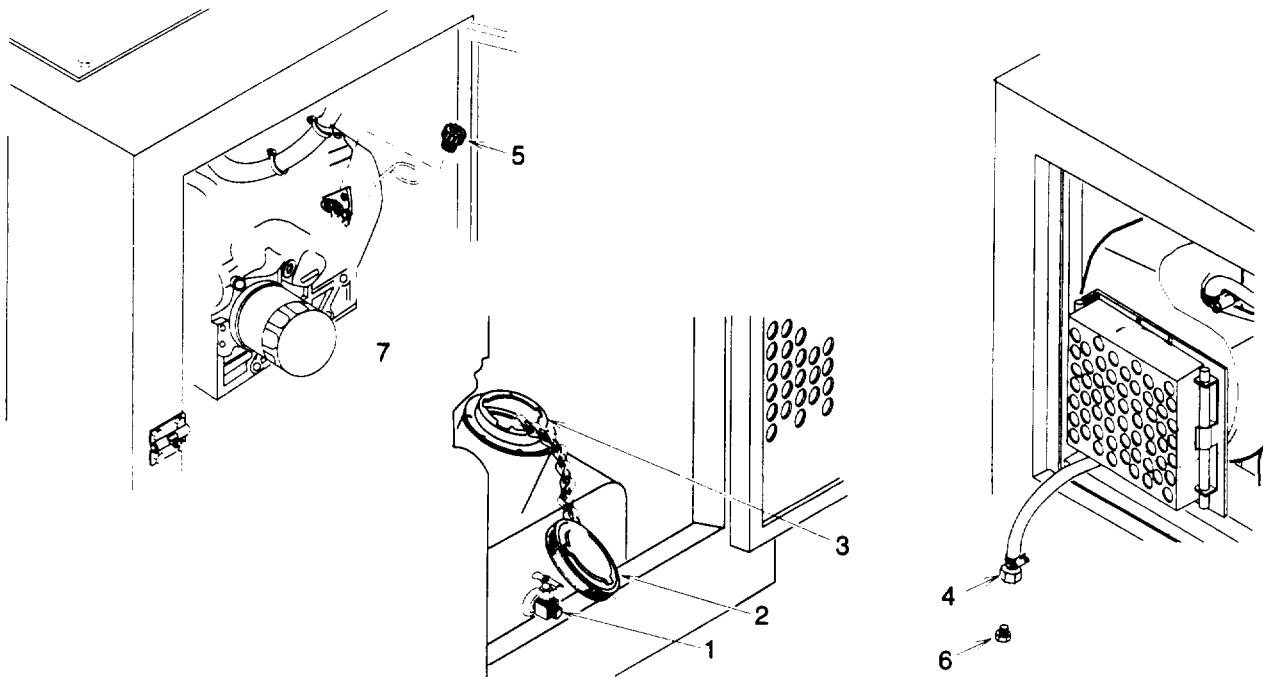

Figure 4-3. Unit Preparation
- (1) Place drain pan under shut-off cock (1, fig. 4-3).
- (2) Loosen shut-off cock (1) and wait for all fuel or preservative oil to drain out. Contact your local environmental officer for guidance on how to properly dispose of fuel or preservative oil in accordance with local regulations.